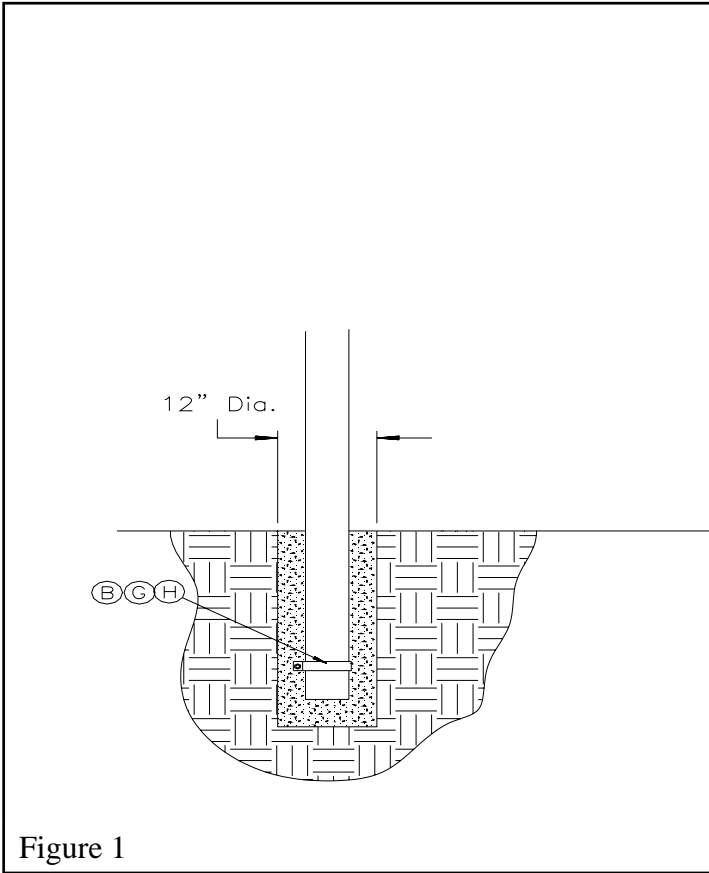

Figure 1
3. Mix concrete according to the directions on the bag. It is advantageous to have the mixture "wet". This will increase your working time and allow batches to mix in the hole. Pour the hole full to ground level. Attach 5 9/16" Band Clamp (B) with 5/16" X 2" Carriage Bolt (G), and 5/16" Flange Nut (H) to bottom end of pole and insert pole into concrete while vibrating concrete to allow it to surround the pole completely. The pole height from the ground to the bottom of the bend should be 9' 6". (See Figures 1 and 3). **Note: If you are installing the PR78 system with the BA407U 54"x 42" polycarbonate backboard your pole height from the ground to the bottom of the bend should be 9' 6 1/2".**
1. Assemble the *Adapter* (A) and the *Backboard Mounting Bracket* (See Figure 1), *Backboard*, and *Goal* (sold separately) using *3/8" Flat washers* (B), *Lock washers* (C), and *Nuts* (D).
2. The goal mounting studs are designed to accommodate a variety of backboard and goal combinations. Please install *Acorn nuts* (I) on exposed studs if you are using a goal without a protective cover plate.